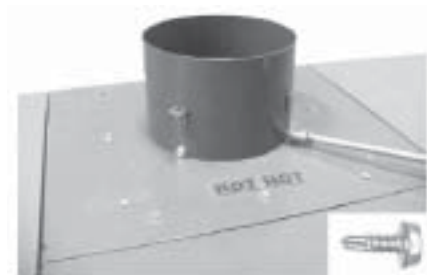

Fig. 2
4. Take four of the self-tapping screws from the kit and screw into the holes as shown in **Fig. 2**.